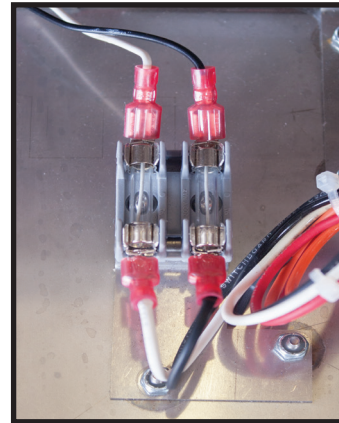

Fig 7.1A
2. Lower front access panel by removing the screws in the upper corners of the panel (Fig 7.1A).